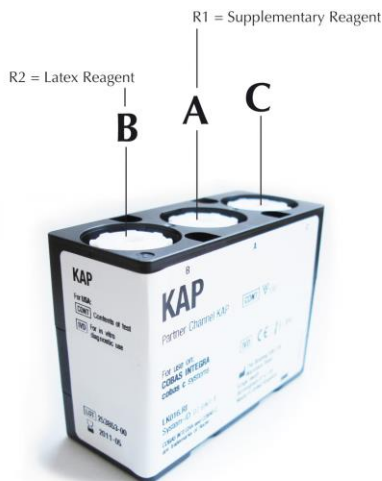

Figure 1: Transfer of reagents to C-pack.
8.2 Transferring R1 and R2 into C-pack (see Figure 1).